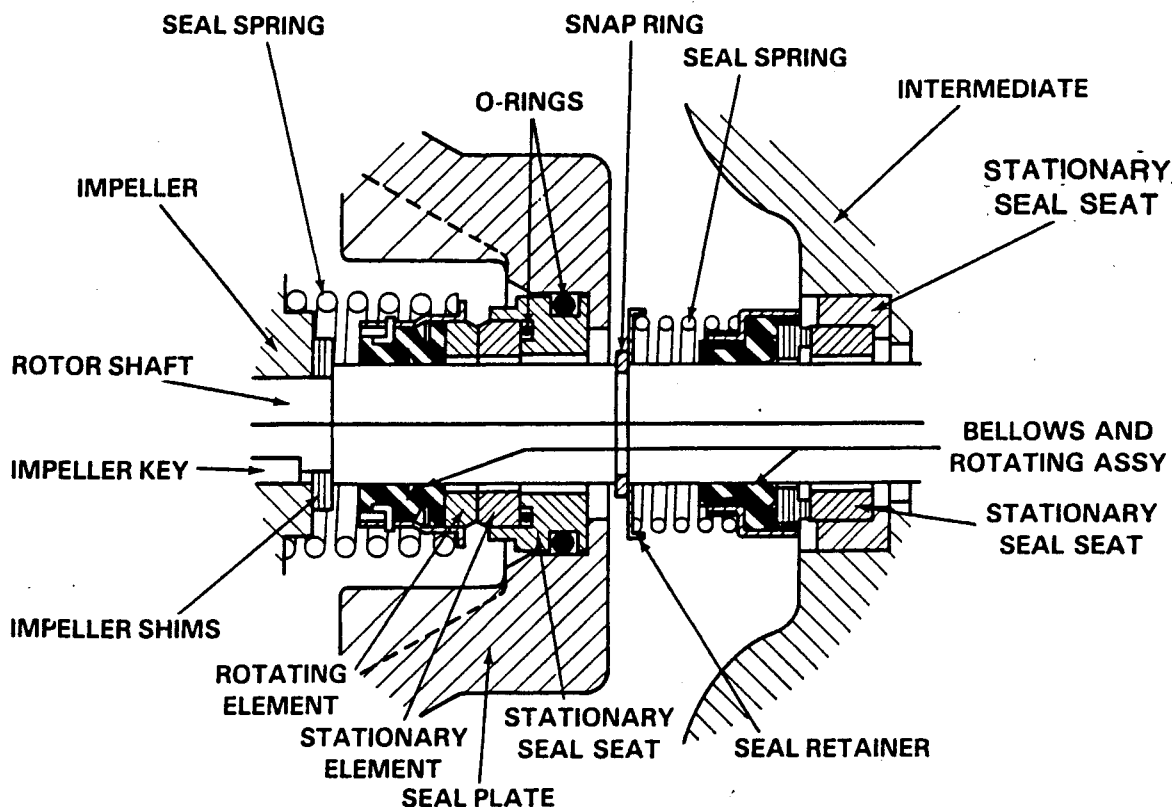

Figure 3. Seal Assemblies 46512-036 and 25271-824
Install the shaft seals as illustrated in Figure 3.
Slide the seal spring over the shaft and bellows retainer, and install the spring retainer. Compress the spring and install the seal retaining ring (7). See Figure 3 for proper order of seal assembly.
Unpack the stationary seat, and check that the O-rings are properly installed (see Figure 3). Apply a light coating of oil to the outer O-ring. Press the stationary seat into the seal bore until it bottoms squarely.